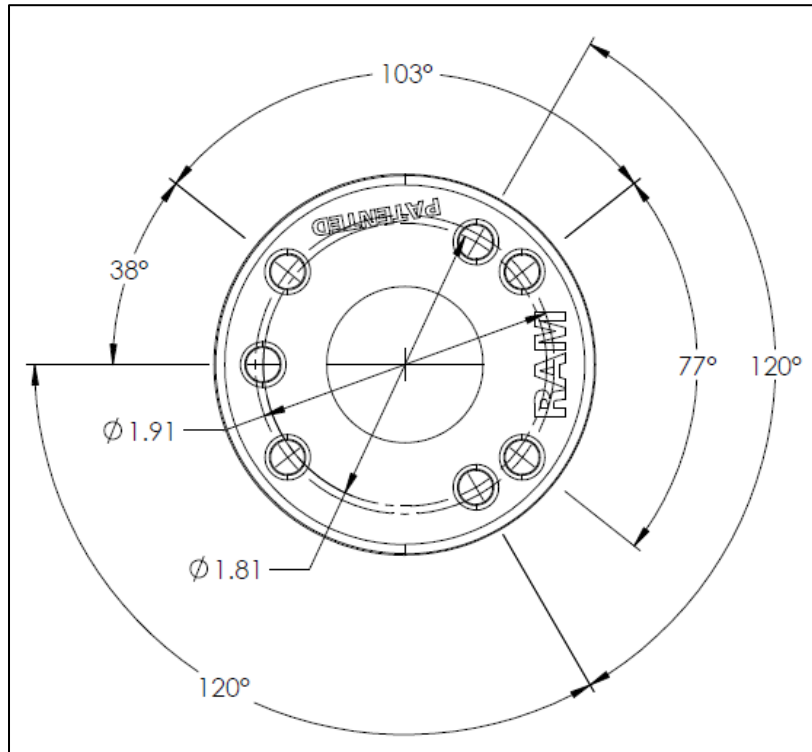

Figure 140: Template
1. Prepare the surface by drilling holes using the template shown **Figure 140** below.